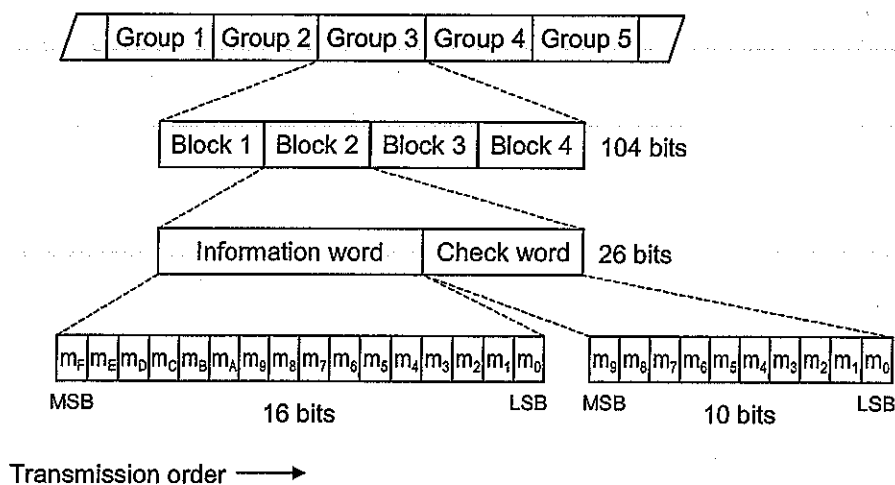

Figure 1-1 RDS data structure
- For each block data, 16-bit Information Word (see Fig. 1-1 of the paragraph 1-3) is described in hexadecimal notation.
- ① Select [File]-[Import...] on the menu bar to open the file dialogue.